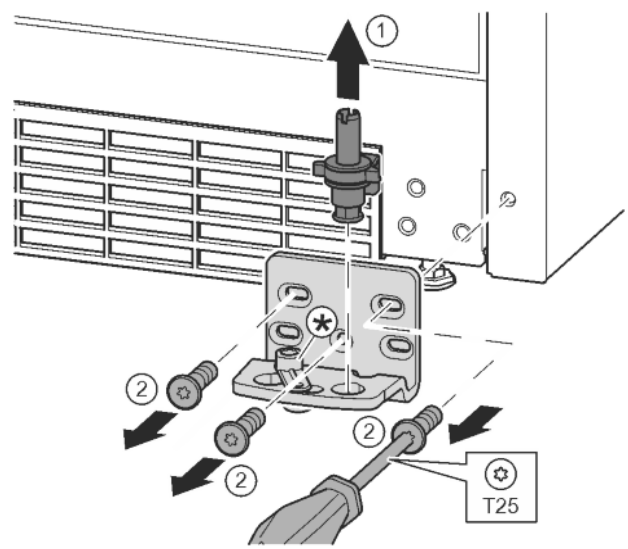

Fig. 11
- ▶ Lift the bearing bolts upwards and remove. Fig. 11 (1)
- ▶ Undo the screws with a T25 screwdriver and remove the mounting block. Fig. 11 (2)